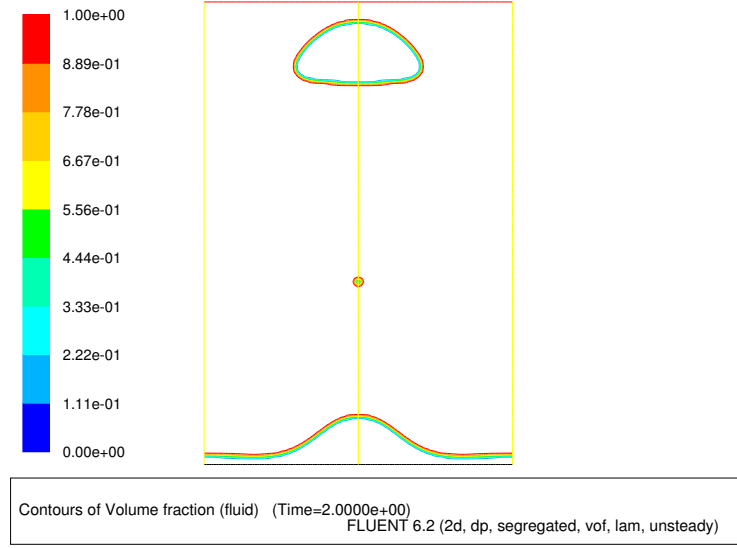

Figure 9: Contours of Fluid Volume Fraction at $t = 2.0s$
5. Display contours of volume fraction of fluid after 2000 time steps ($t = 2.0s$). See Figure 9.